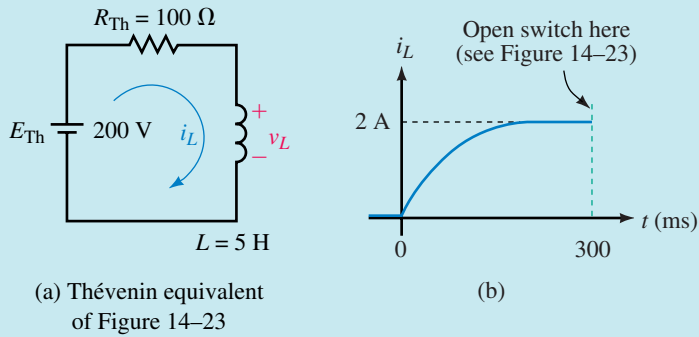

FIGURE 14-25 Circuit and current during the buildup phase.
The Thévenin equivalent circuit is shown in Figure 14-25(a). $\tau = L/R_{Th} = 50 \text{ ms}$. Thus during current buildup,
- b. Current build-up is sketched in Figure 14-25(b). Since $5\tau = 250 \text{ ms}$, current is in steady state when the switch is opened at 300 ms. Thus $I_0 =$